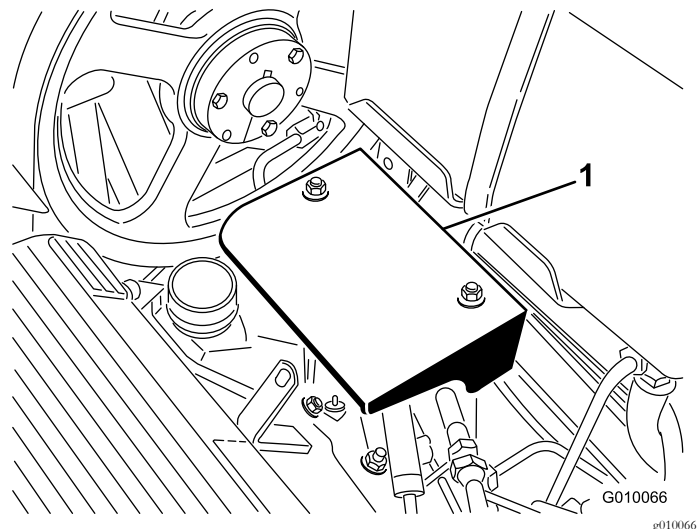

Figure 56
3. Remove the 2 pump shield mounting nuts and remove the shield (Figure 56).